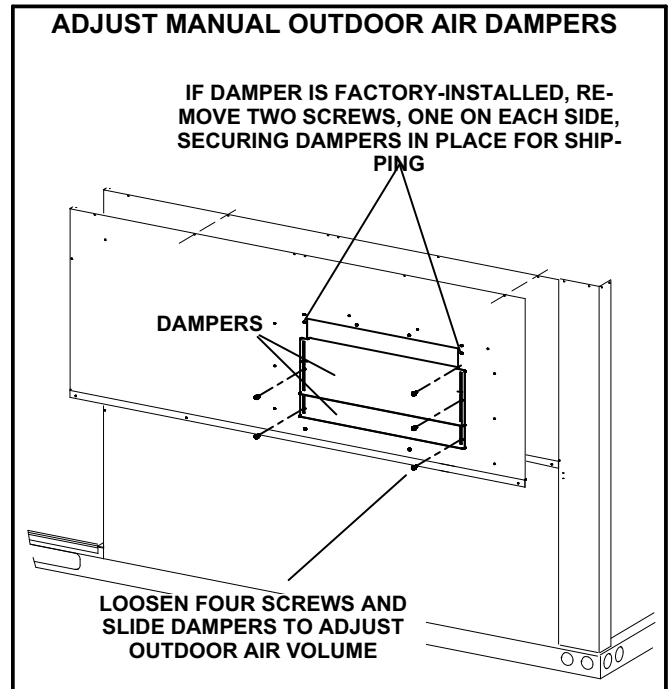

FIGURE 9
- 5- *Factory-Installed Dampers* - Remove two screws securing dampers in place for shipping. See figure 9.
- 6- To adjust manual damper outdoor air amount, loosen the slots screws and slide dampers to the desired position. Tighten the screws to secure dampers in place. See figure 9.